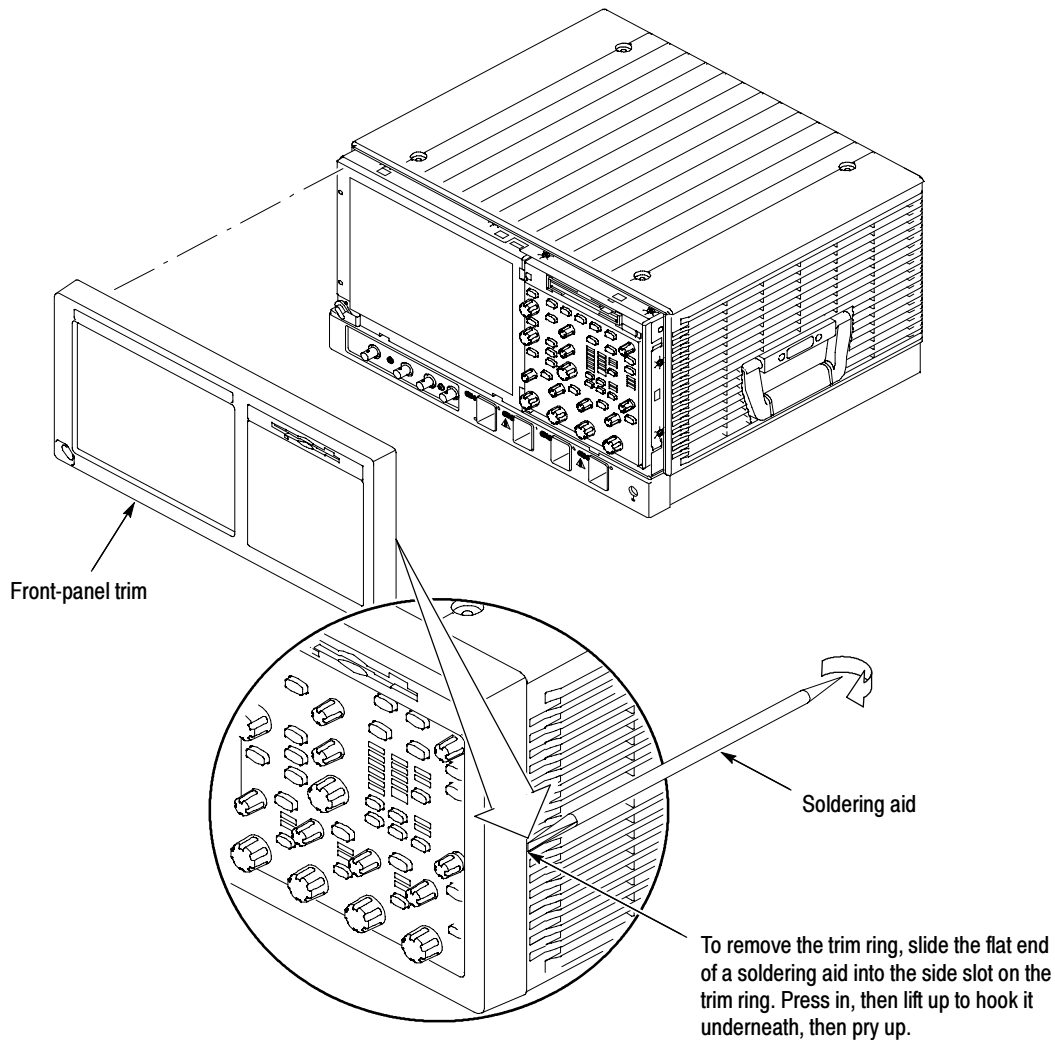

Figure 2: Trim removal
1. *Locate module to be removed:* Locate the Trim in Figure 2, page 7.
2. *Remove the front-panel trim:* Use Figure 2, page 7, as a guide.